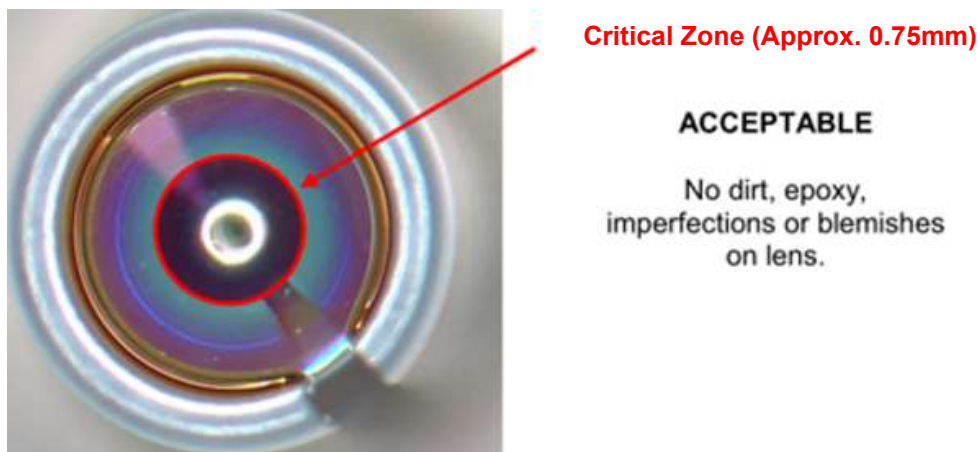

Figure 12
4. In the rare case that a stubborn blemish, epoxy drop, or a permanent contaminant cannot be removed, simple leave it be if it is located outside a central diameter of approximately 0.75 mm (see Figure 12).